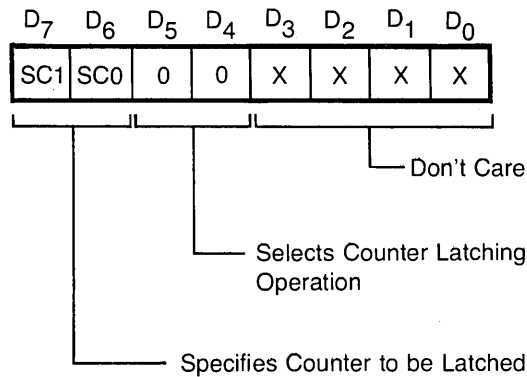

Figure 3-9. PIT Counter Register Latch Control Word Format
- Write counter register latch control word (Figure 3-9) to port base+3. The control word specifies the desired counter and selects the counter latching operation.